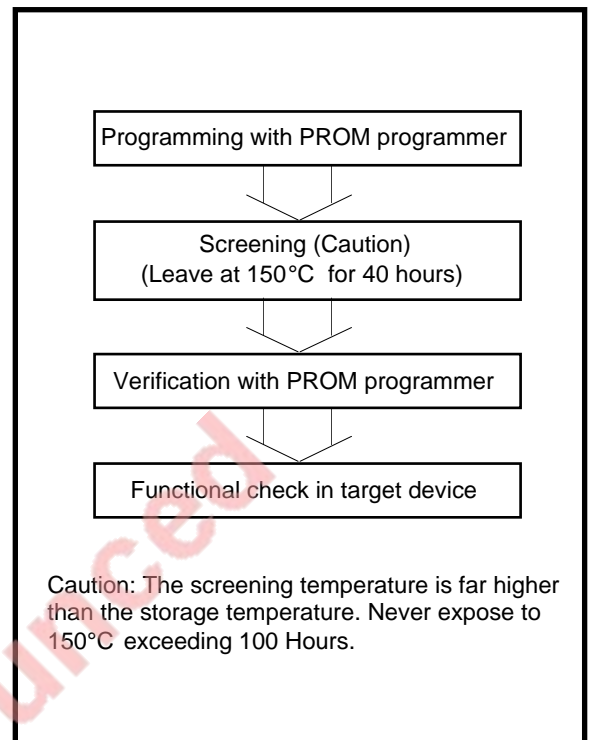

Fig. 1.19.7 Programming and testing of One Time PROM version
(2) One Time PROM version
- The PROM of the One Time PROM version is not tested or screened in the assembly process and following processes. To ensure proper operation after programming, the procedure shown in Figure 1.19.7 is recommended to verify programming.